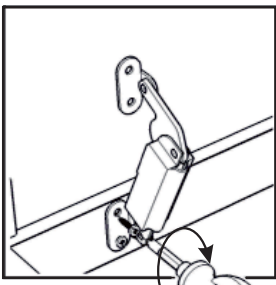

Figure 2
Attach Spring Supports to Seat (A) with Wood Screws into the pre-drilled holes. (See Figures 2 and 3)